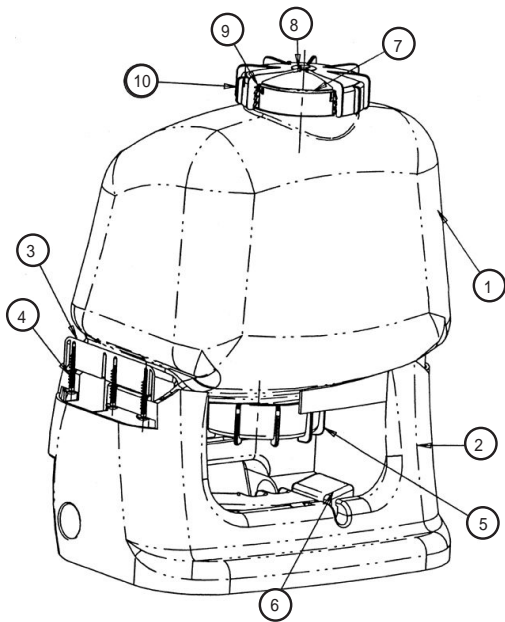
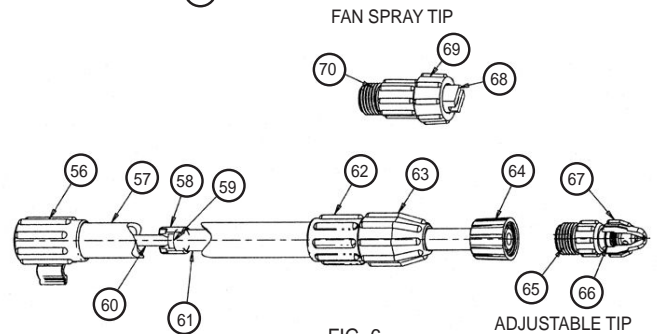

FIG. 1
FIG. 6
1. Adjust nozzle tip (fig. 6, item 67). Tighten tip for fine spray or loosen for coarser spray or solid stream. **WARNING:** Loosening tip too far will result in tip coming off, allowing spray substance to spray back at you or in uncontrolled directions.
2. Optional fan tip with fixed pattern replaces adjustable tip and body (fig. 6, item 68, 69, 70). Store optional fan tip assembly or adjustable nozzle tip assembly when not in use by snapping into storage slot in service panel (fig. 1, item 6).
2. Loosen cap (fig. 1, item 8) and pour out any remaining spray solution. Rinse all parts thoroughly with clean water.
1. Remove the service panel (fig. 1, item 6) by pressing on the three tabs located on the center and sides of the panel. Pull the panel out through the bottom of the base.
4. Loosen pump cap (fig. 1, item 5) by turning counterclockwise until it is free of the threads and remove through bottom of tank base.
TANK ASSEMBLY (FIG. 1)